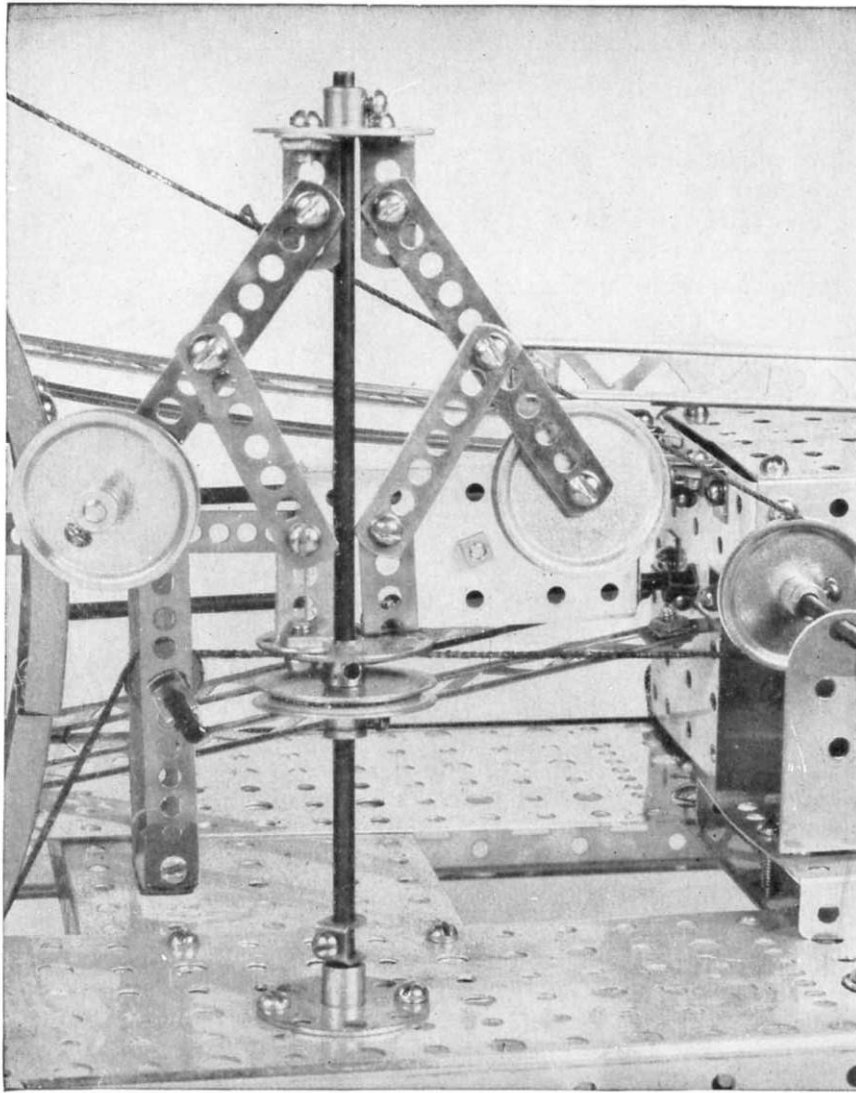

FIGURE 7
The governor (Fig. 7) is built with 2 (BT) pierced discs, 2 (H) 11 hole strips, 2 (G) 7 hole strips with 4 (O) pawls. Two pawls are mounted to each pierced disc. The flyweights are P7-A pulleys. A (CZ) 7" axle rod is used as a center support and is mounted to the base and revolves in a (BT) pierced disc. The governor is driven from the (DB) motor pulley on the power unit with string to the P7-A pulley on the governor rod. When the speed of the shaft is increased, the weights move up, swing out and the lower (BT) pierced disc, which is free on the shaft, moves up toward the top. As a result this model governor acts like a real one. The string take-up shown in Fig. 7 behind the flywheel is built with an (M) small double angle, 2 (H) 11 hole strips, an (AQ) sheave pulley, a P57-A 2 1/8" axle and 2 P37 collars.